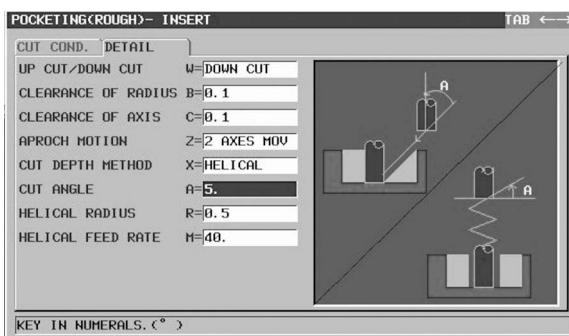

Figure 7-60 POCKETING (ROUGH), CUT ANGLE
- Set the CUT ANGLE $A=5$. per Figure 7-60.